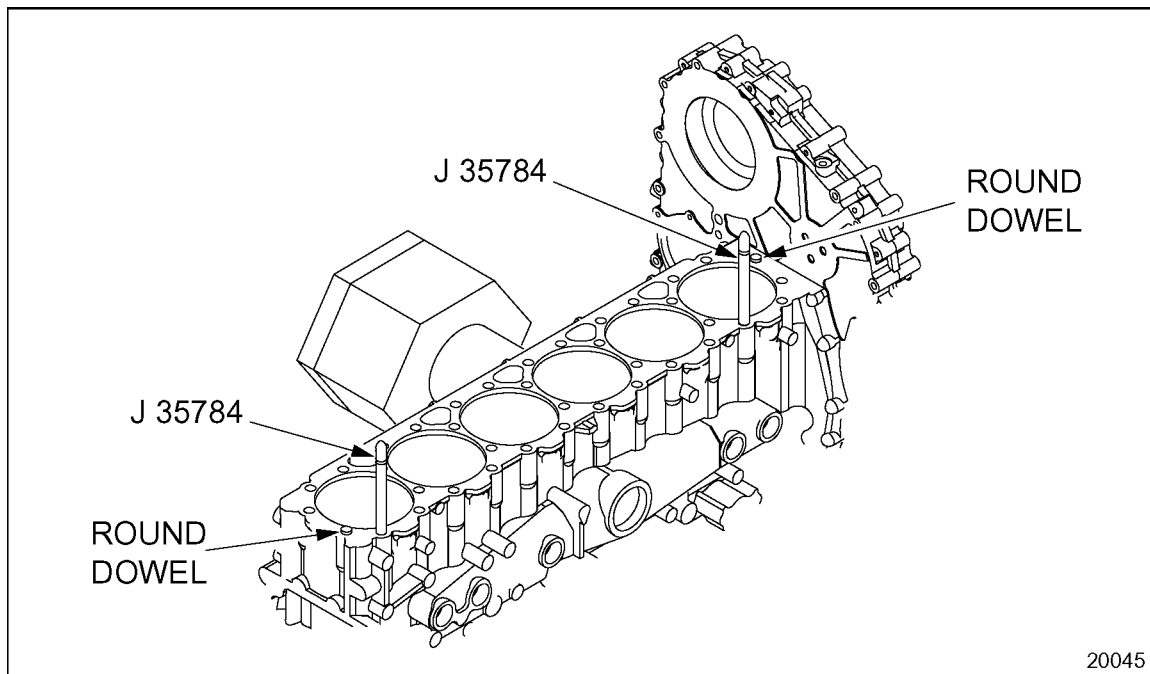
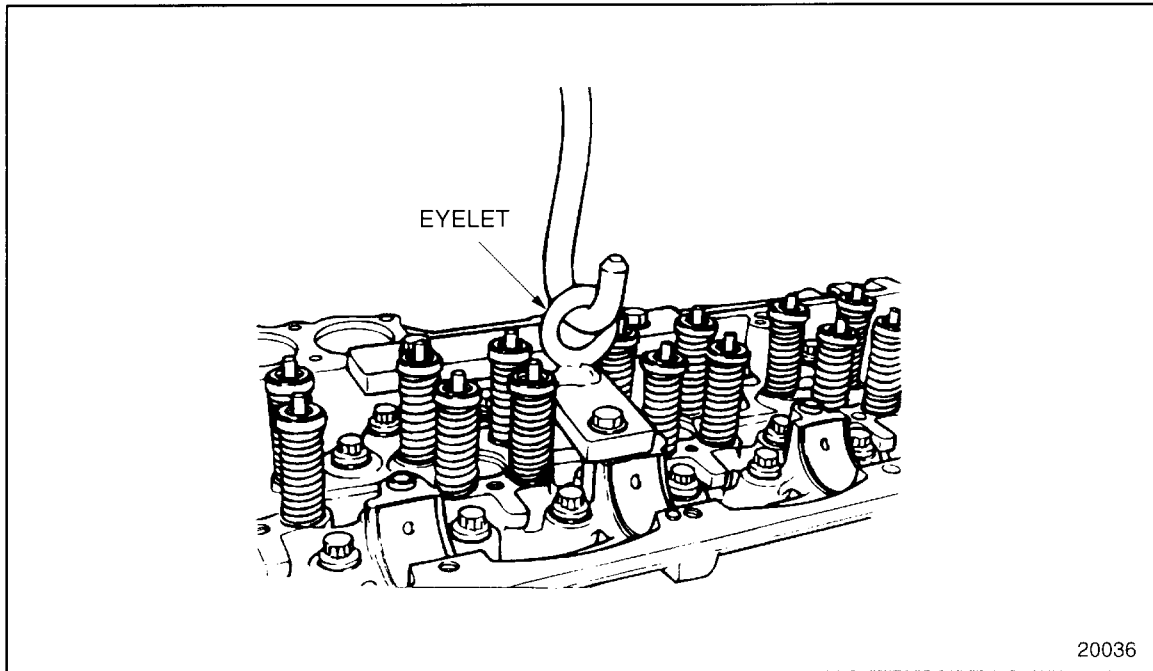

Figure 1-44 **Cylinder Head Guide Studs**
Figure 1-45 **Cylinder Head Installation**
2. Position the head gasket on the block and install cylinder head guide studs, J 35784, at front and rear of the block. See Figure 1-44.
3. Lift the head into position with lift bracket, J 35641. See Figure 1-45. Lower it into place over the guide studs, J 35784, until it seats on the block deck dowels. See Figure 1-44.